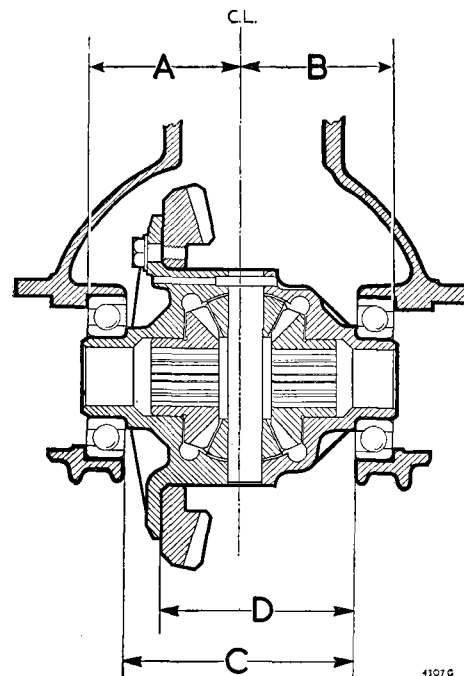

Fig. H.8
bearing bores. The dimensions to be considered are shown in Fig. H.8, (A) being the distance from the centre-line to the bearing register of the carrier on the left-hand side and (B) the distance from the centre-line to the bearing register of the carrier on the right-hand side. The (C) dimension is from the bearing register on one side of the cage to the register on the other side, while the (D) dimension is from the rear face of the crown wheel to the bearing register on the opposite side. Any tolerance of the (A) dimension will be found stamped on the carrier adjacent to the bearing bore, and similarly with the (B) dimension. The (C) and (D) dimensions are stamped on the machined face of the differential cage.